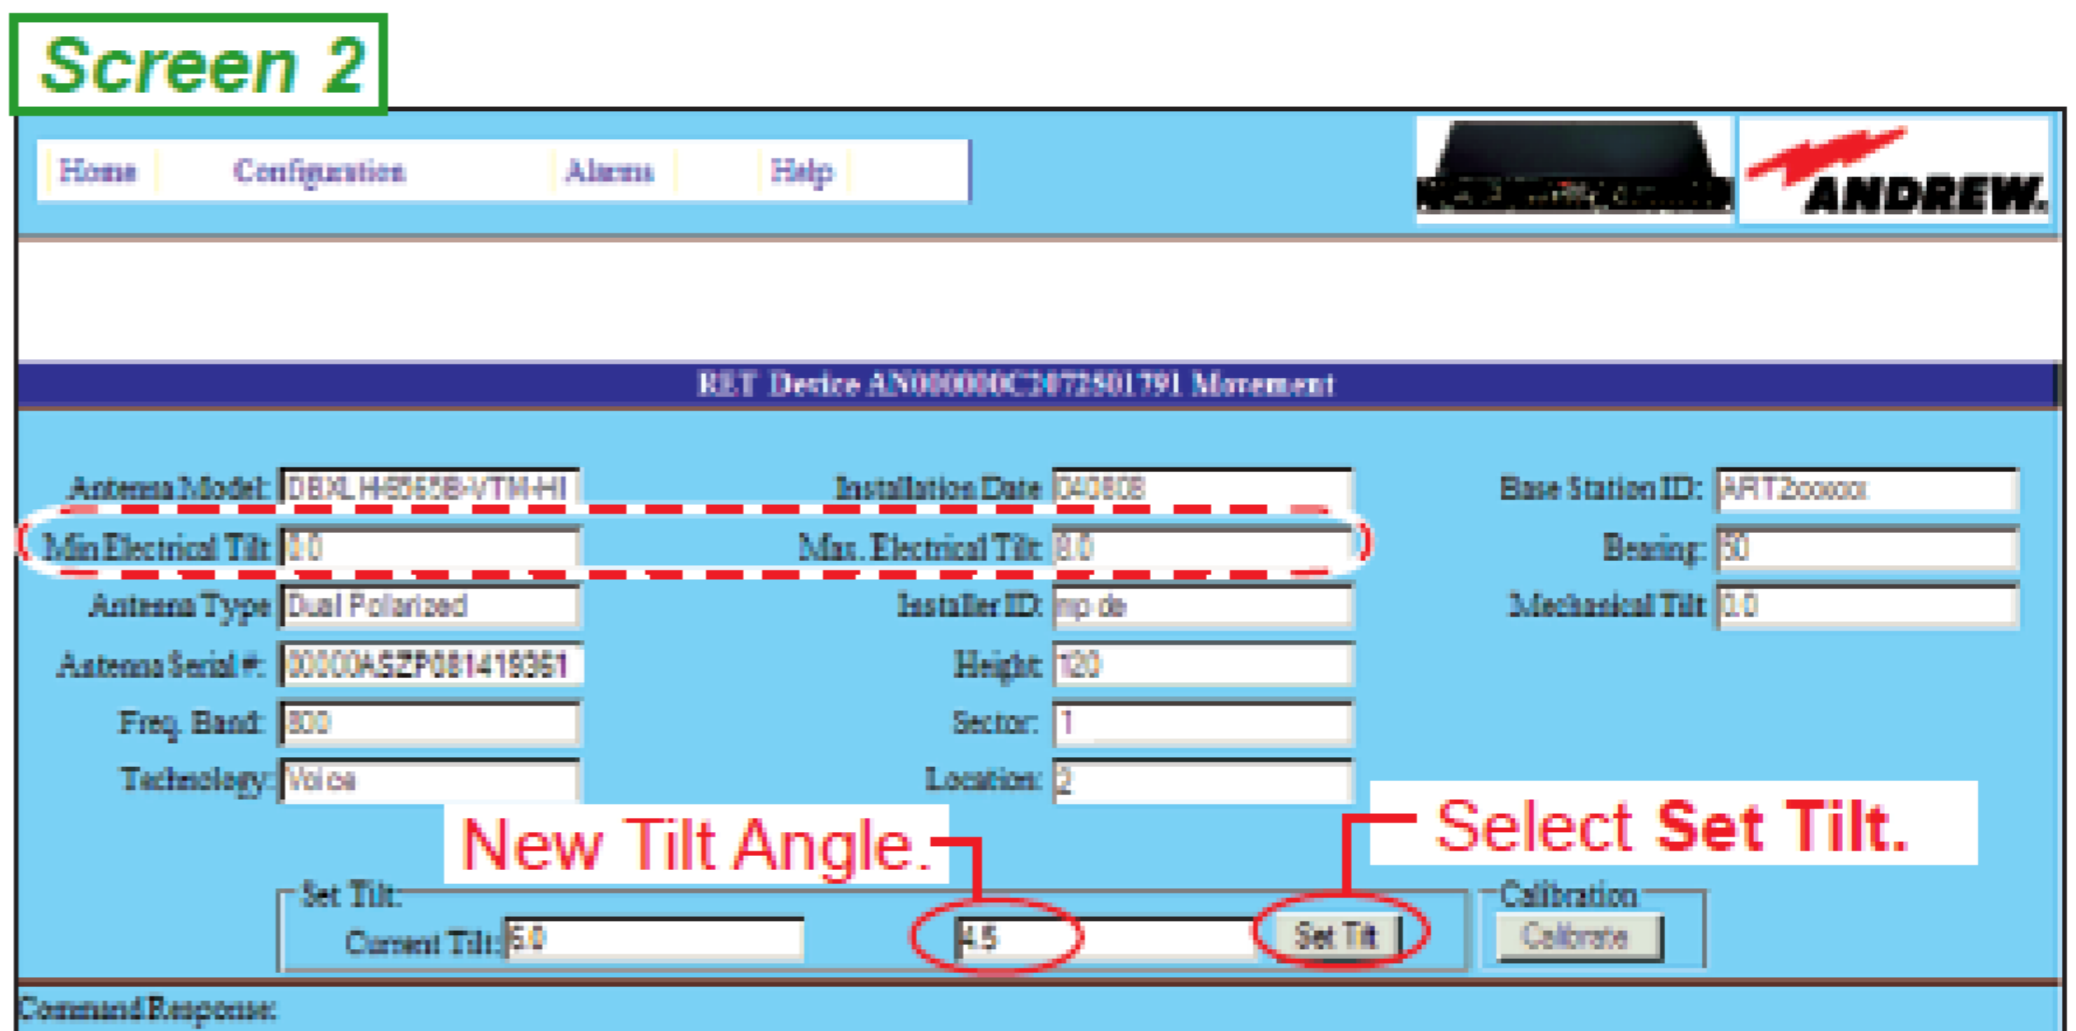

Figure 4-1. Adjusting Tilt For One Antenna.
- Start at the controller's main inter-face screen. To change electrical downtilt on a single antenna, select the antenna actuator to be tilted, and click **Move Selected**. See Figure 4-1, Screen 1.
- Enter the new electrical tilt angle and click on **Set Tilt**. See Figure 4-1, Screen 2.